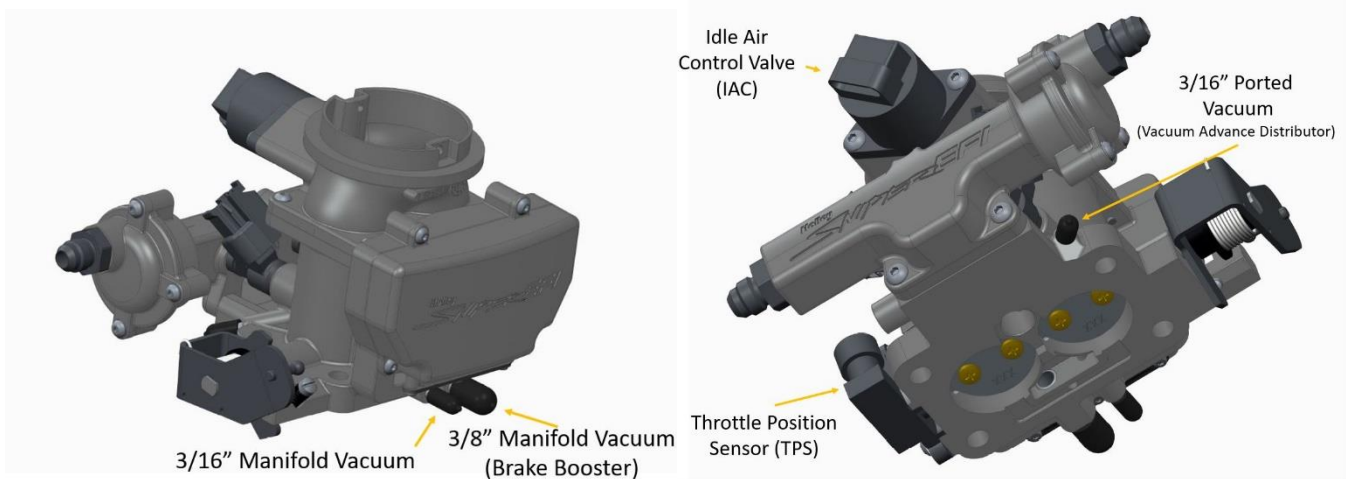

Figure 2
5. Reconnect the appropriate vacuum hoses to the Sniper EFI throttle body. **Be sure to plug any vacuum sources not used on both the Sniper EFI Throttle Body and on the Engine.** See Figure 2 for diagram of vacuum ports.